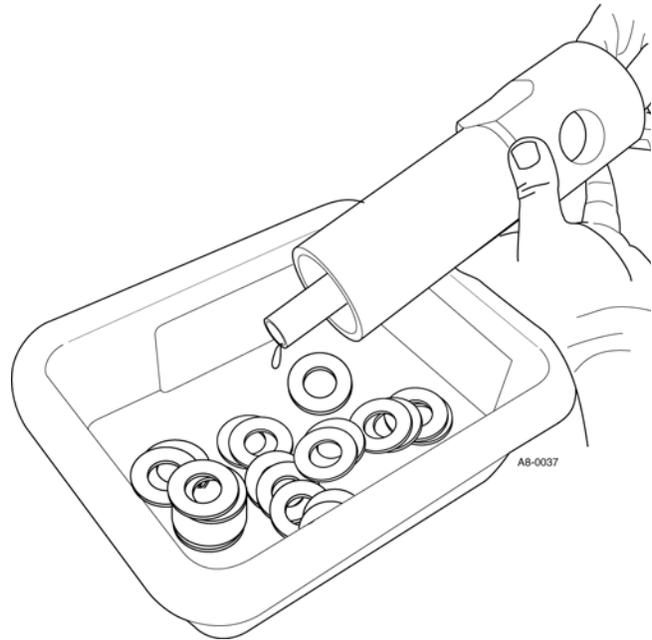

Figure 5. Spring Plunger & Spring Removal
- c. With a clean tray or tub to catch debris, turn body upside down and push out spring plunger and springs (See Figure 5). There should be 20 disc springs in addition to the plunger that are removed. Clean all components in solvent and blow dry.